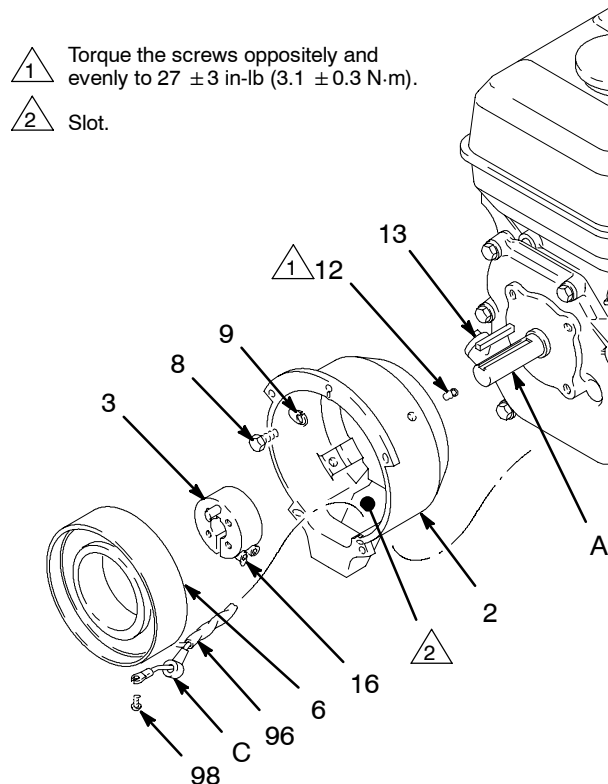

Fig. 18
1. Install the **clutch housing (2)**, capscrews (8) and lockwashers (9) on the engine. See Fig. 18.
2. Install the engine shaft **key (13)**. See Fig. 18.
4. Connect the wires of the wire harness (96) to the screws (98) in both places on the field (wires can be attached to either connection). Pull the plastic caps (C) up and snap them over the screws. Install the **field (6)** in the clutch housing (2). Work the wire harness through the slot in the clutch housing. With the setscrew holes in the field and the clutch housing (2) aligned, tighten the setscrews (12) oppositely and evenly, to  $27 \pm 3$  in-lb ( $3.1 \pm 0.3$  N·m). See Fig. 18.